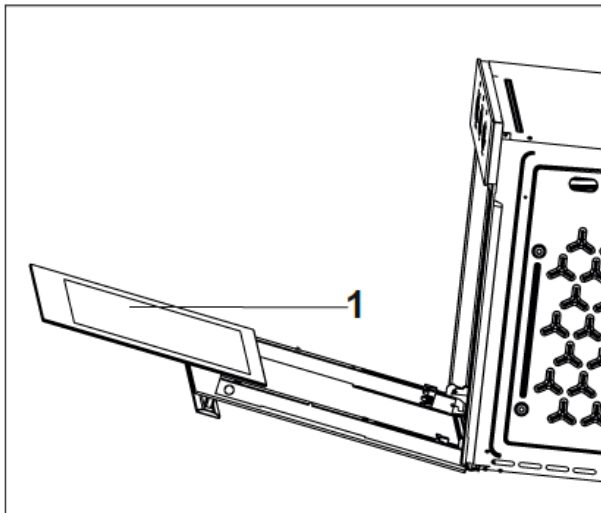

Fig. 25
- Remove the internal glass of the appliance to clean it (Fig. 25).